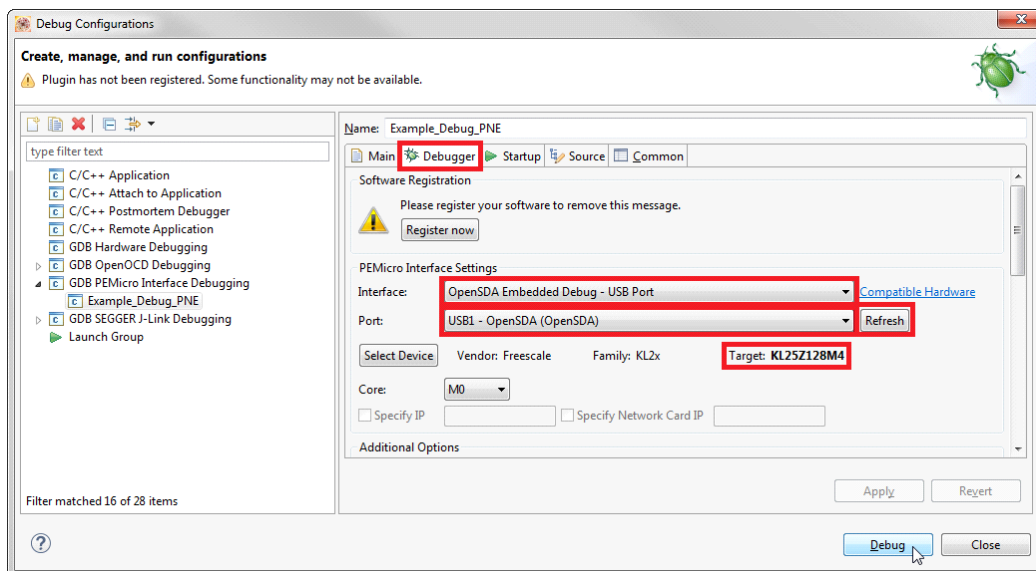

Figure 23. Downloading the application (c)
4. Click the **Debugger** tab and set the **Interface** option to **OpenSDA Embedded Debug - USB Port**. Then click the **Refresh** button next to the **Port** setting to update the list of available USB ports (see Figure 23).